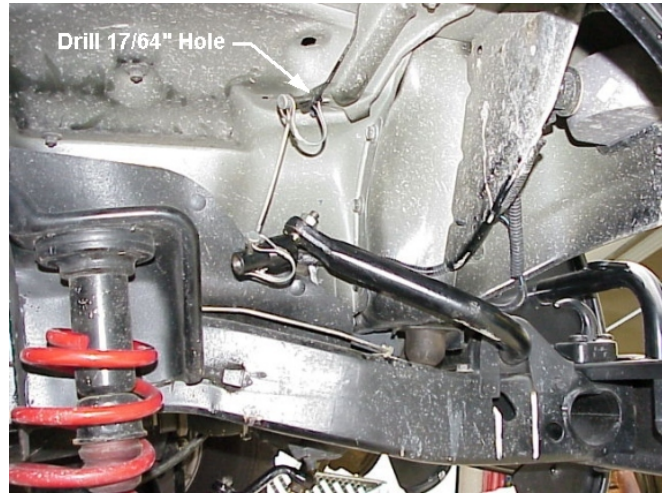

Figure 23
- 3) Connect the sway bar to the inside of the fender wells as shown in figure 23.